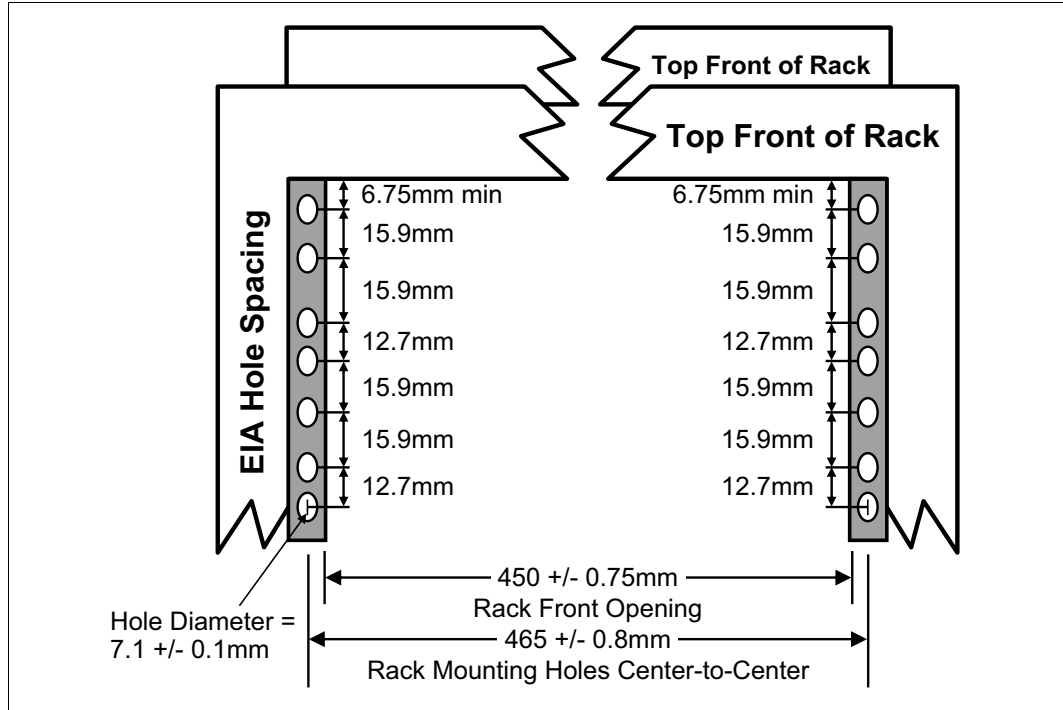

Figure 1-14 Rack specification dimensions, top front view
- ▶ The vertical distance between the mounting holes must consist of sets of three holes spaced (from bottom to top) 15.9 mm (0.625 in.), 15.9 mm (0.625 in.), and 12.67 mm (0.5 in.) on center, making each three-hole set of vertical hole spacing 44.45 mm (1.75 in.) apart on center. Rail-mounting holes must be 7.1 mm ± 0.1 mm (0.28 in. ± 0.004 in.) in diameter. Figure 1-14 shows the top front specification dimensions.